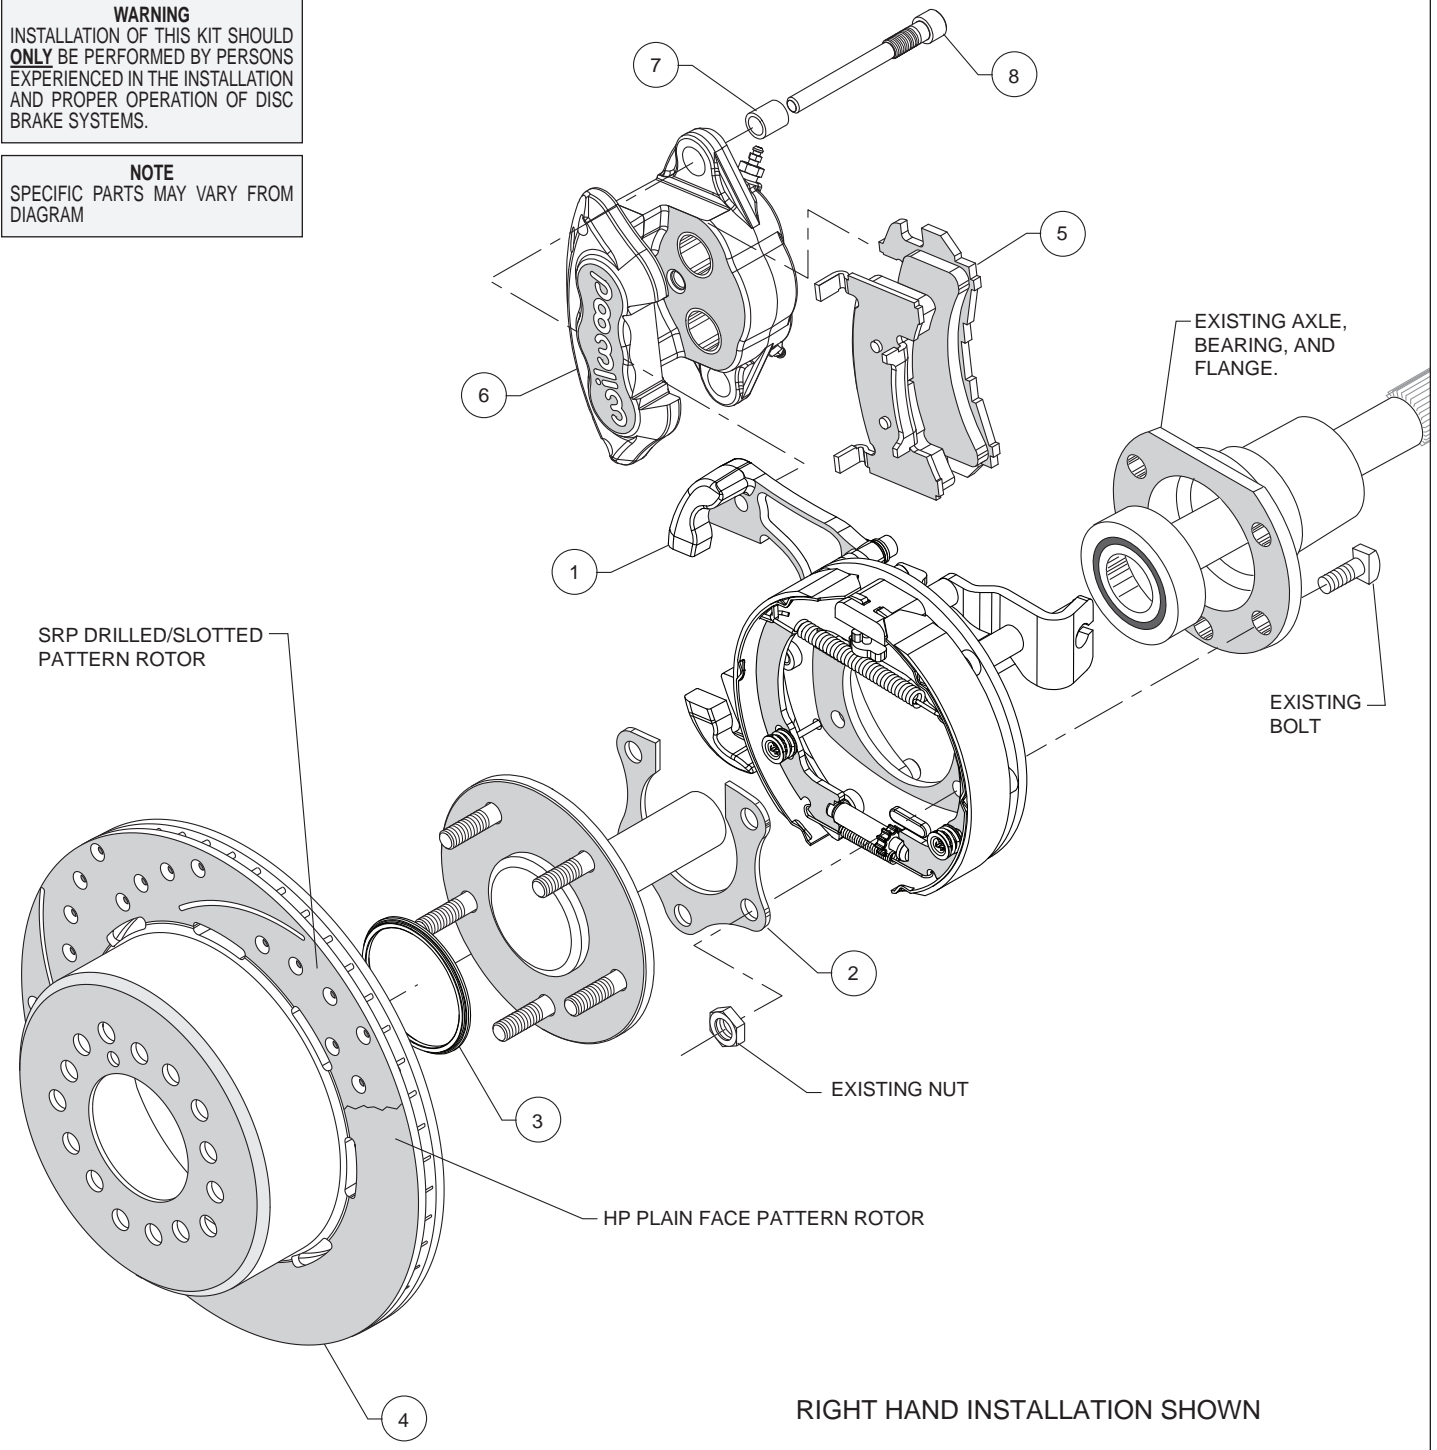

Figure 3. Typical Installation Configuration
Assembly Instructions (numbers in parenthesis refer to the parts list, and Figure 3 on the preceding pages): **CAUTION:** All mounting bolts must fully engage threaded holes.
- Determine that the appropriate snap ring style green bearing has been installed on the axle, as shown in Figure 2. Temporarily remove snap ring from bearing. Orient the bracket assembly (1) as shown in Figure 3 and Photo 1 and slide it onto the axle and over the bearing. Reinstall snap ring on bearing. Insert the axle and bracket into the axle housing. Ensure that the bracket assembly backing plate fits flush against the axle housing flange.
- Install the bearing retainer (2) with the opening pointing upward and the bearing relief step facing inward (toward the bearing), as shown in Figures 3 and 6. Secure retainer and bracket assembly to the axle housing flange using the Original Equipment Manufacturer (OEM) bolts and nuts, Figure 3. Apply red *Loctite*® 271 to the OEM bolt threads and torque to OEM specifications.
- Slide the rotor registration adapter (3) onto the axle register on the axle flange with the smaller O.D. facing toward the rotor/hat (4), Photo 2. Align the correct hole pattern in the rotor/hat with the stud pattern on the axle flange and slide into place, Figure 3 and Photo 3. **NOTE:** The rotor/hat must fit flush against the axle flange or excessive rotor run out may result. Install three lug nuts (finger tight) to keep the rotor/hat assembly in place while continuing with the installation. **NOTE:** Some OEM and after market axles come with stud sizes larger than 0.50" diameter. Verify stud size and have a qualified machine shop drill the bolt circle of the hat/rotor to the correct stud size, if necessary.
- Install the disc brake pads (5) into the caliper (6) with the friction material facing the rotor, as shown in Figure 3 and Photo 4.
- Install sleeves (7) onto slide pin bolts (8). Apply white lithium grease (available from your local auto parts store) to the slide pins/sleeves, as shown in Photo 5. **Do not apply to threads.** Mount the caliper (6) onto the mounting bracket (1) using slide pin bolts, as shown in Figure 3. Torque to 35 ft-lbs.